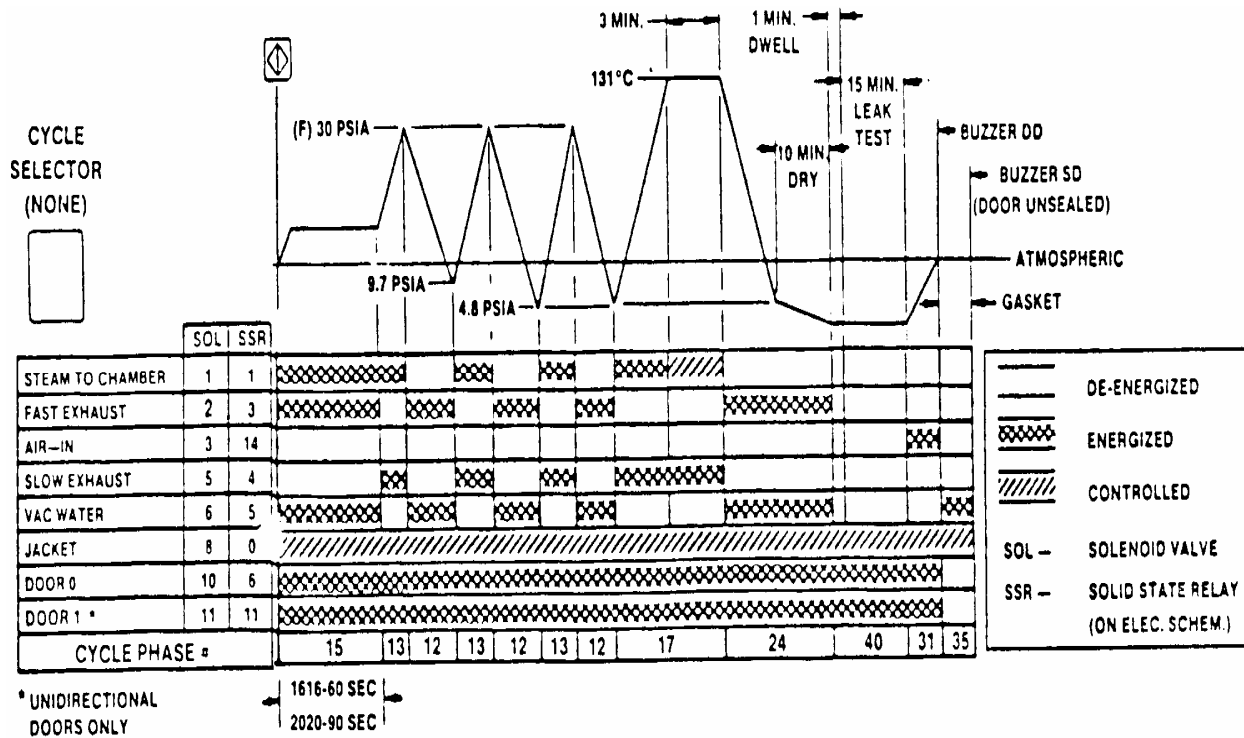

Figure 1-14. Vacuum leak test cycle.
(1) Control ON. This switch energizes (opened to steam supply) 8SOL. Steam enters and heats the jacket to the selected temperature by energizing (opening) and de-energizing (closing) 8SOL as necessary.
(2) Seal door. This switch energizes (opened to steam/closed to the ejector) 10SOL on single door units. 10SOL (control end) and 11SOL (remote end) are energized on double door units. Gasket groove(s) is/are pressurized, sealing the chamber. Select liquids cycle and enter the appropriate times and preset temperature.
(3) Phase 15: purge. Press the cycle start switch to energize (open). After a 5 second delay, 1SOL, 2SOL, and 6SOL are energized. Steam enters the chamber from the jacket through 1SOL and purges the chamber of air through 2SOL to the ejector. The steam is cooled through the ejector and flows to the drain. After the time period noted, 2SOL and 6SOL are de-energized (closed), and the purge is complete.
(4) Phase 17: heat/exposure. 1SOL and 5SOL are opened. Steam pressurizes the chamber. When the selected exposure temperature is reached (as sensed by the temperature transducer in the chamber drain line), the exposure time begins. 1SOL de-energizes (closes) and energizes (opens) as necessary to maintain the selected exposure temperature. When the exposure time for a Liquids cycle expires, 1SOL and 5SOL remain energized (opened), and 8SOL is de-energized (closed).
(5) Phase 29: slow exhaust. The jacket pressure is released to the chamber through 1SOL, and the chamber pressure is slowly released through 2FCV until atmospheric pressure is reached.
(6) Phase 30. 2SOL is energized for a timed period (approximately 20 seconds).
(7) Phase 35: gasket retract (single door units). 10SOL is de-energized (closed to steam/opened to the ejector). 6SOL is energized (opened). Water to the ejector creates a negative pressure in the gasket groove, retracting the door gasket within 30 seconds. The complete buzzer then sounds and shuts off after you open the door or one minute has elapsed.
(8) Phase 35: gasket retract (double door units). The complete buzzer sounds and shuts off after you press either unseal door switch or one minute has elapsed. Press the desired unseal door switch to de-energize (closes to steam/opens to the ejector) the gasket solenoid valves (10SOL and 11SOL). 6SOL is energized (opened). Water to the ejector creates a negative pressure in the gasket grooves, retracting the door gaskets within 30 seconds, and the doors can be opened.
d. **Vacuum Leak Test Cycle**. Perform the vacuum leak test when 79 appears in the digital display. Refer to figure 1-14.
(1) Control On. This switch energizes (opened to steam supply) 8SOL. Steam enters and heats the jacket to the selected temperature. The jacket transducer maintains temperature by energizing and de-energizing 8SOL.
(2) Seal door. 10SOL is energized (opened to steam/closed to the ejector) on single door units. 10SOL (control end) and 11SOL (remote end) are energized on double door units. The gasket groove(s) is/are pressurized, sealing the chamber. Do not select a cycle.
(3) Phase 15: purge. Press the cycle start switch to start. After a 5 second delay, 1SOL, 2SOL, and 6SOL are energized. Steam enters the chamber from the jacket through 1SOL and purges the chamber of air through 2SOL to the ejector. After one minute, 2SOL and 6SOL are de-energized (closed), and purge is complete.